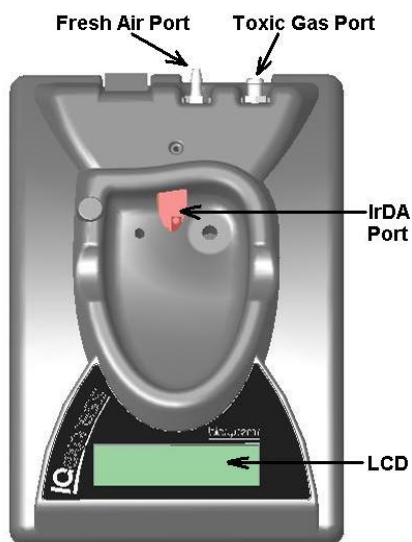

Figure 2.7 IQ Express Gas Ports
3. Connect the end of the tubing with the white quick disconnect fitting to the toxic GAS port on the IQ Express Dock (see figure 2.7 above for location of the GAS port).